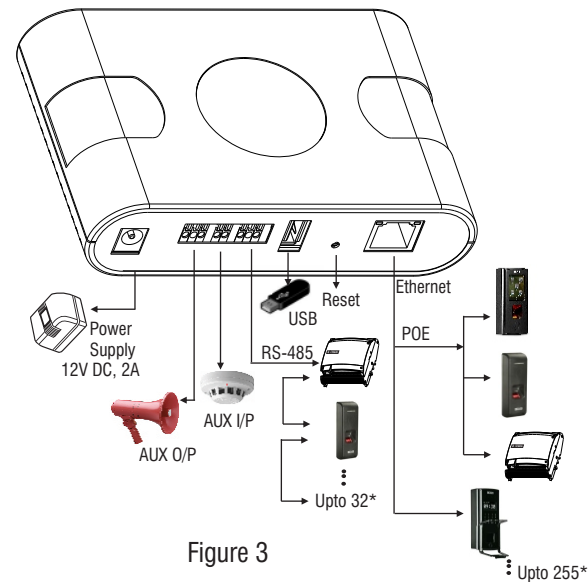

Figure 3
- Connect the required cables with reference to Figure 3. To do this, insert the wires into their respective Connection Terminals.